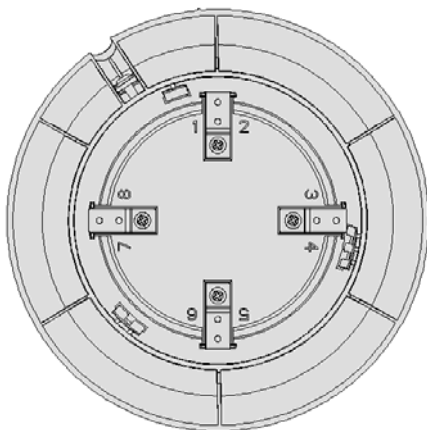

Fig.2 Bottom structure of the Base
2. The bottom structure of the Addressable Sounder Base as shown in Figure 2. Install the Addressable Sounder Base on the TX7980-type base with the installation terminals of the two devices are one-to-one. The device number or other device parameters can be verified with a handheld programmer if desired.